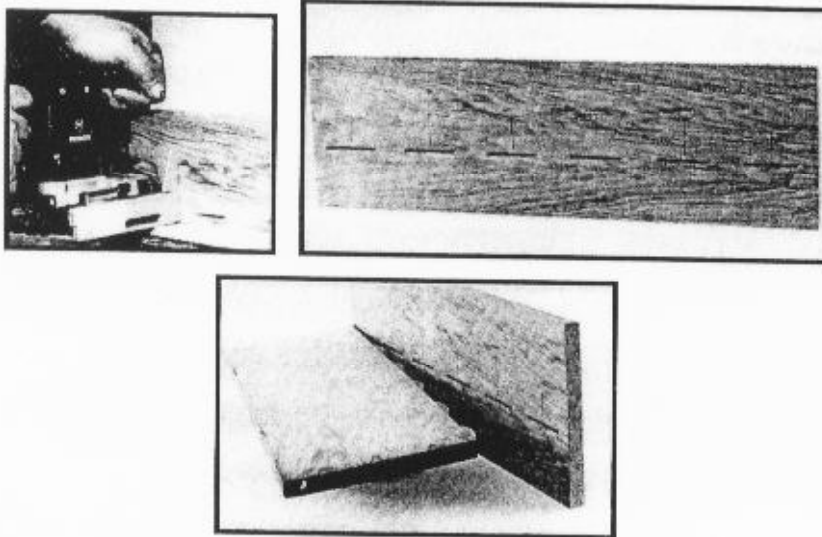

Fig. 10
5. Hold machine firmly as shown in Fig. 10, and squeeze trigger switch to start machine.
8. Repeat steps 4 through 7 until all the grooves for workpiece (A) Fig. 9 are completed, see Fig. 10.